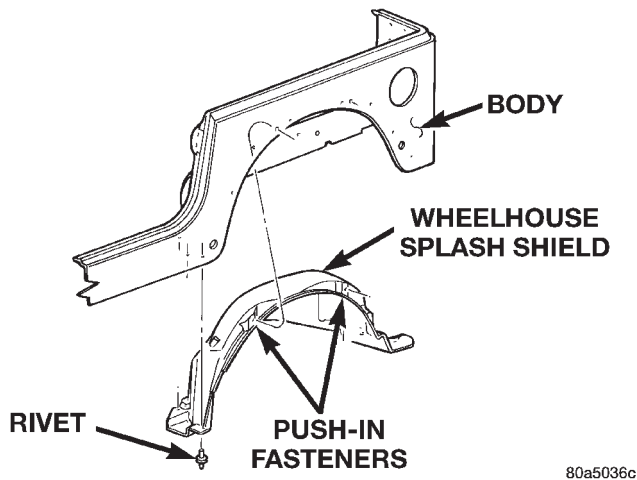

Fig. 73 Wheelhouse Splash Shield
(1) Remove the plastic rivets that attach the splash shield to the wheelhouse (Fig. 73).
(2) Remove the push-in fasteners attaching the splash shield to the wheelhouse. (The push-in fasteners are molded into the splash shield.)
(3) Remove the splash shield from the wheelhouse.